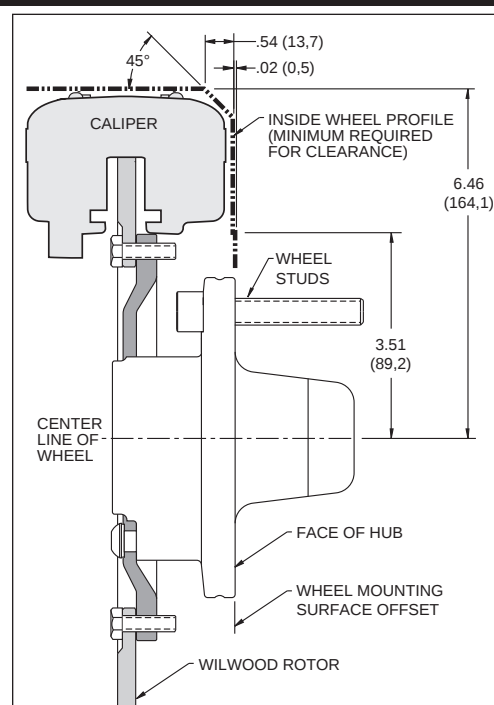

Figure 2. Wheel Clearance Diagram
- Review the wheel clearance diagram (Figure 2, page 3) to verify that there is adequate clearance with the wheels you will be using with the installation.
- Verify your wheel clearance using Figure 2